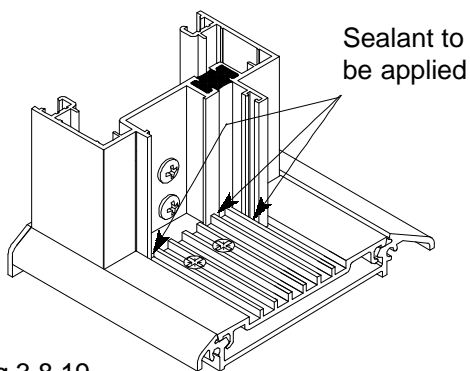

Fig.3.8.19
- Seal around the jamb to track area as shown in Fig.3.8.19, and push fit a foam bung (C3129) down into the back of the jamb pocket.